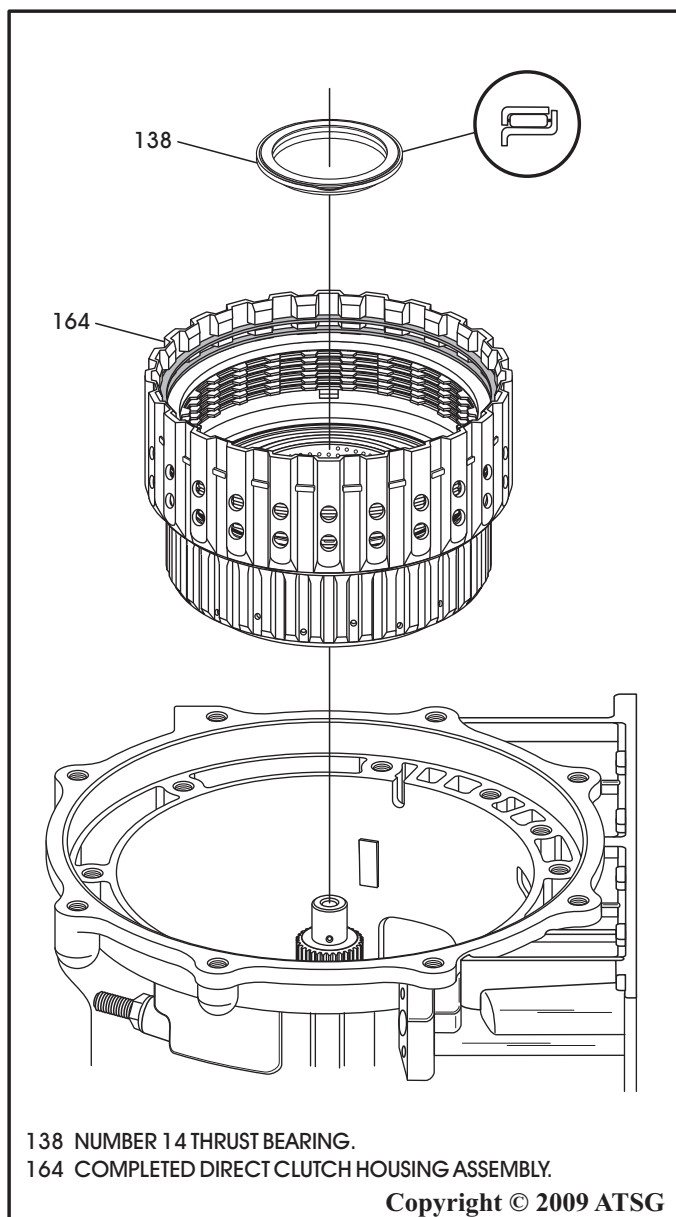

Figure 215
53. Install the pre-assembled direct clutch housing into the reverse brake clutches, as shown in Figure 215, by rotating back and forth so that drum engages all of the reverse brake clutches.